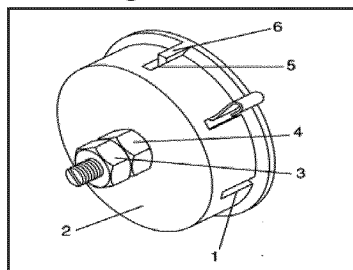
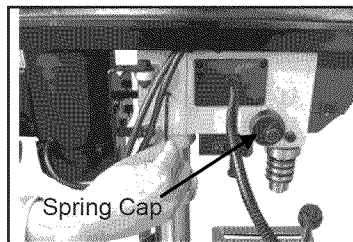

Figure 14
Figure 14A
4.7 Replace the lock nut (3) and tighten against the inner nut (4) to prevent the inner nut from reversing. **See Fig.14 and Fig. 14A**